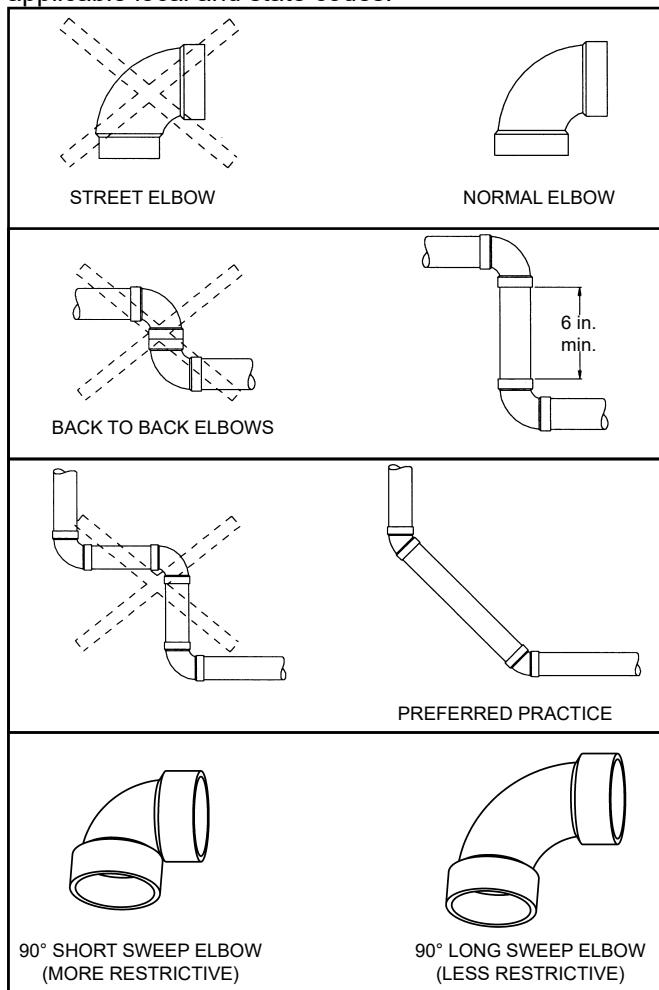

Figure 31.
Note: The information provided in Figure 31 is intended as a guideline for good vent installation practices only and is not intended to restrict venting options beyond those restrictions established by the current edition of the **"National Fuel Gas Code, ANSI Z223.1/NFPA 54"** or any applicable local and state codes.
3. Avoid using 90 degree elbows "back to back" and do not use street elbows. Maintain a minimum 6 in. straight section between elbows. Closely coupled and short radius elbows reduce the venting capacity. Figure 31 shows examples of vent pipe connections.